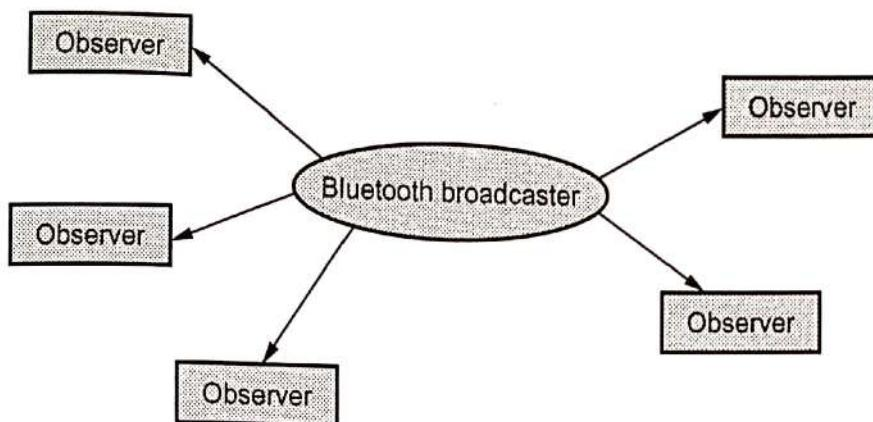

Fig. 3.2.3 : Broadcasting
1. **Broadcasting** : It consists of two devices i.e., broadcaster and observer. Broadcaster send data to all observer. (See Fig. 3.2.3 on next page.)